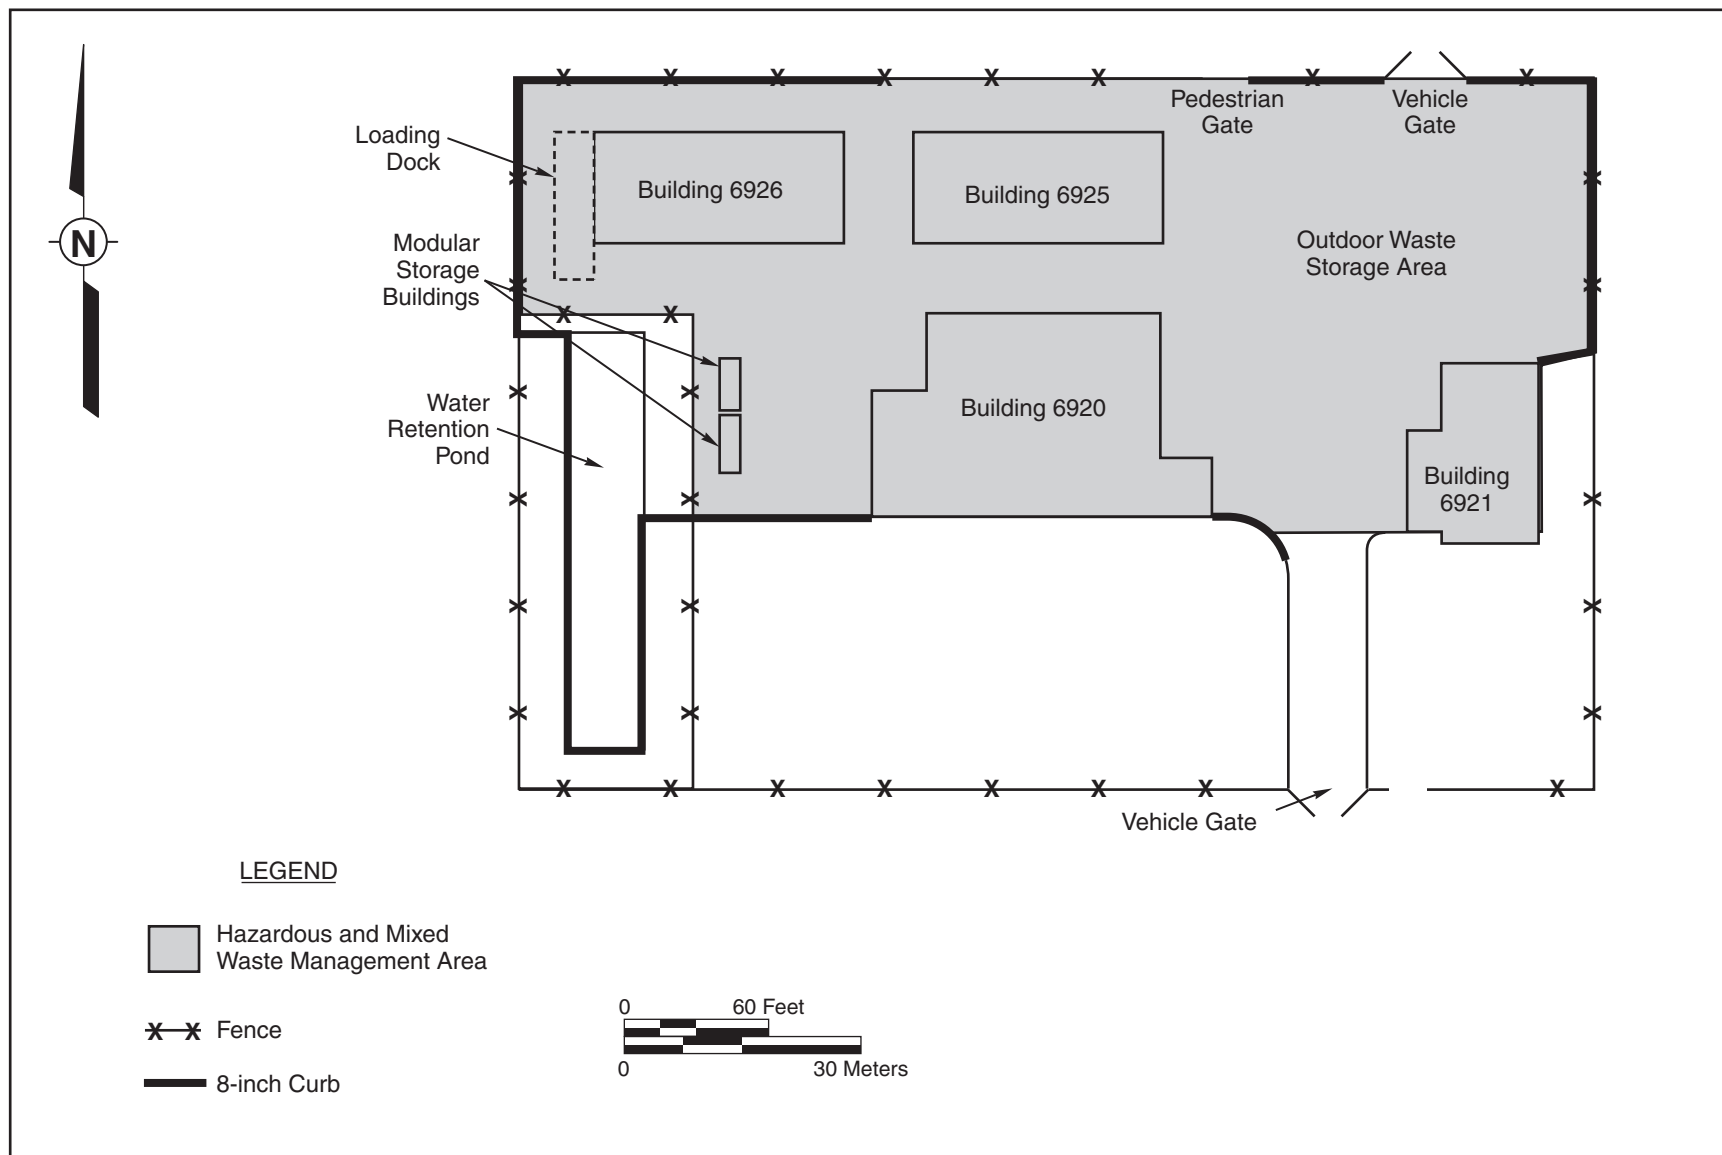

Figure 16
- Figure 16: Radioactive and Mixed Waste Management Unit Hazardous and Mixed Waste Management Areas